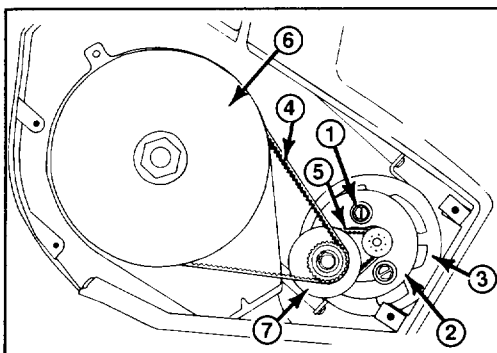

Figure 13
1. Remove the (5) screws securing the left side plate to the snowthrower frame. Remove side plate and skid.
2. Remove large belt by slowly walking (sliding) it off small pulley (Fig. 13).
4. Belt tension will decrease allowing the motor and pulley assembly to rotate clockwise, simplifying belt removal. Slip belt off large pulley (Fig. 13).
4. Belt tension will decrease allowing motor and pulley assembly to rotate clockwise, simplifying belt removal. Slip belt off large pulley (Fig. 13).
5. Loosen (do not remove) the (2) $5/16$ " socket head screws on the motor mounting plate (Fig. 13). This allows the small pulley to move simplifying small belt replacement.